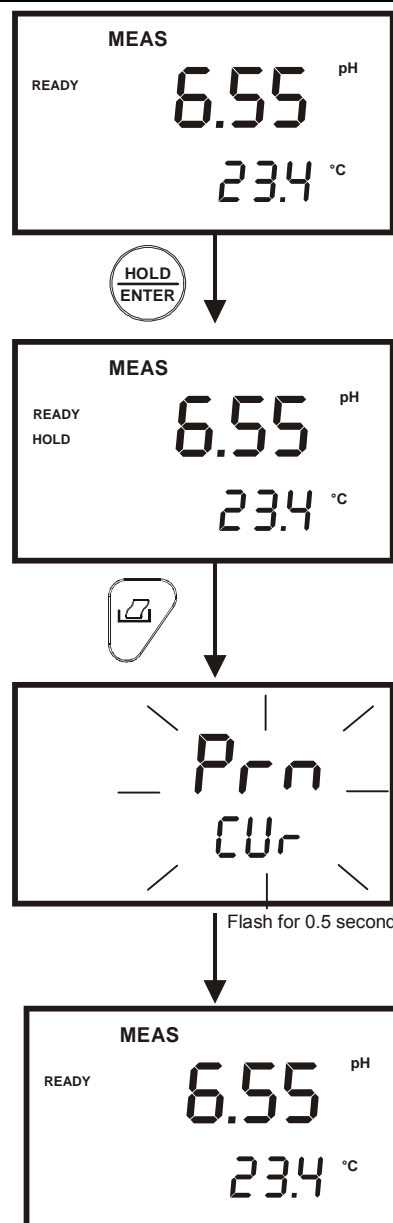

Figure 24: Print current data manually
1. From measurement mode, press HOLD key to freeze reading. See Figure 24.